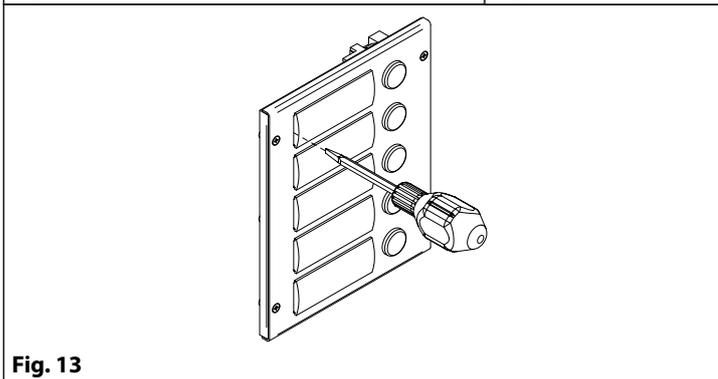

Fig. 13
- Insert a flat screwdriver into the card-holder hole as shown in **Fig. 13**;